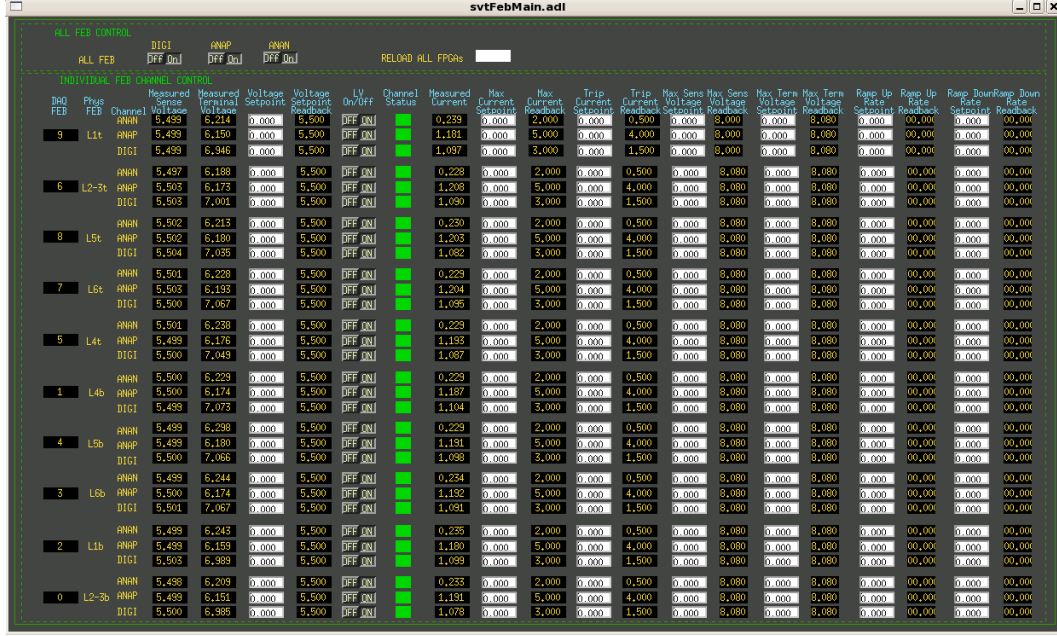

Figure 2.8: FEB power GUI.
- **FEB Power GUI** in Fig. 2.8.